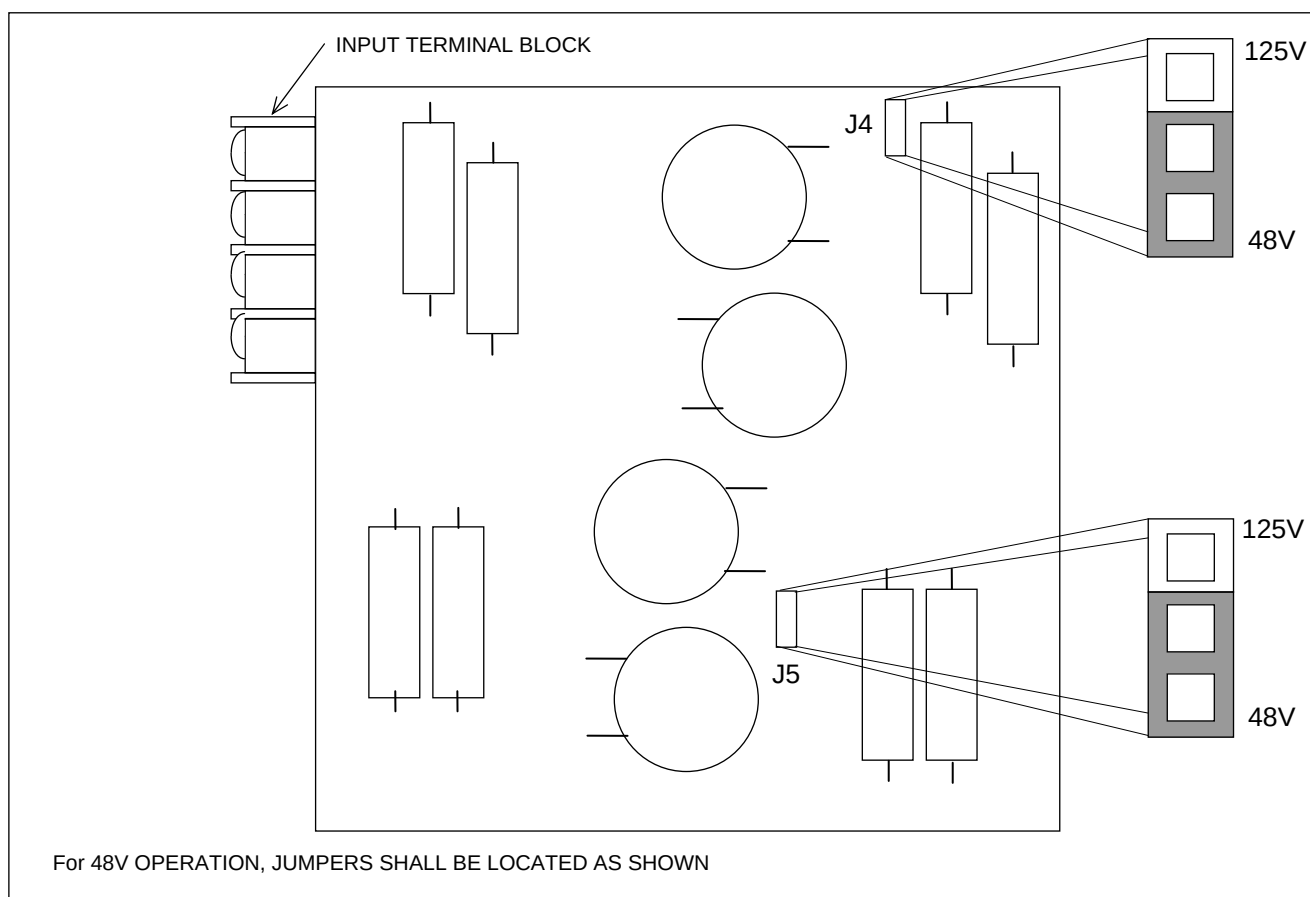

Figure 5. Location and use of voltage control jumpers on a typical I/O adapter module input board
4. Once the I/O adapter module has been selected, check the settings of the voltage control jumpers located on the I/O adapter module input board(s). All eight versions of the I/O module input boards shown in Figure 5 are identical, with the exception of the placement of the two voltage control jumpers J4 and J5. Note the location of these jumpers in Figure 5.